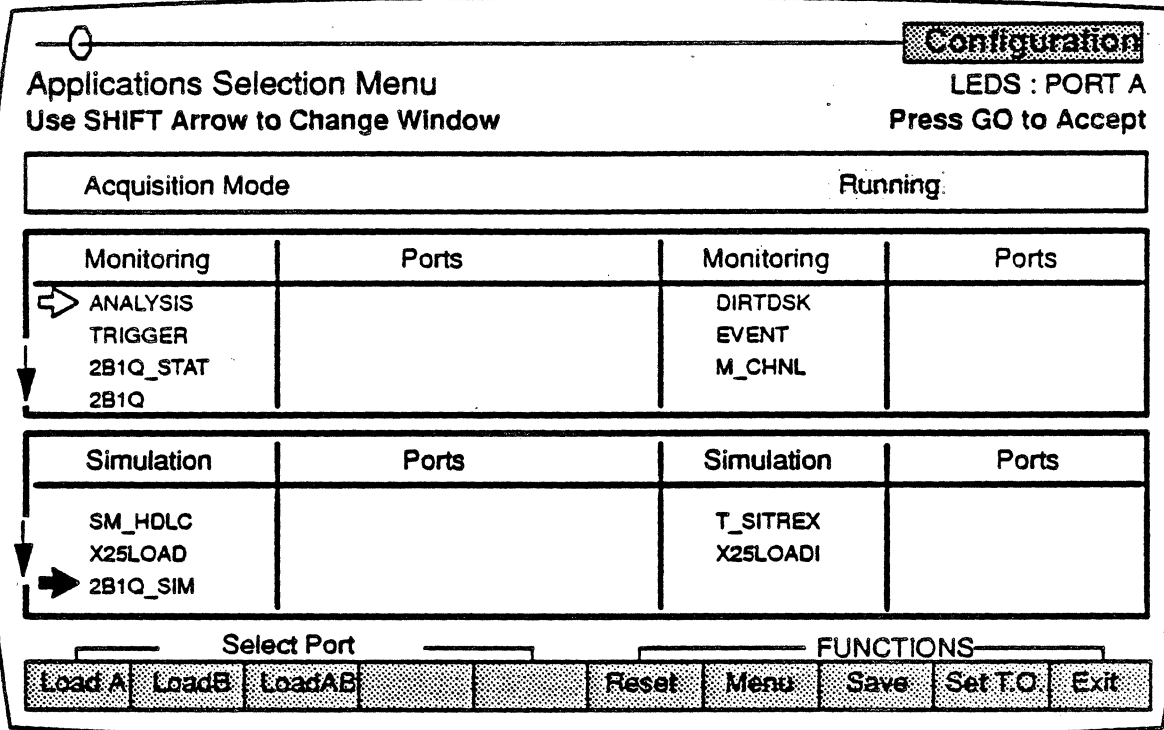

Figure 1.3: The Applications Selection Menu with 2B1Q Applications
- 9. Press *Go* again. The Applications Selection Menu appears (Figure 1.3).
- 10. Move the arrow to *2B1Q\_Sim*. (See Figure 1.3.)